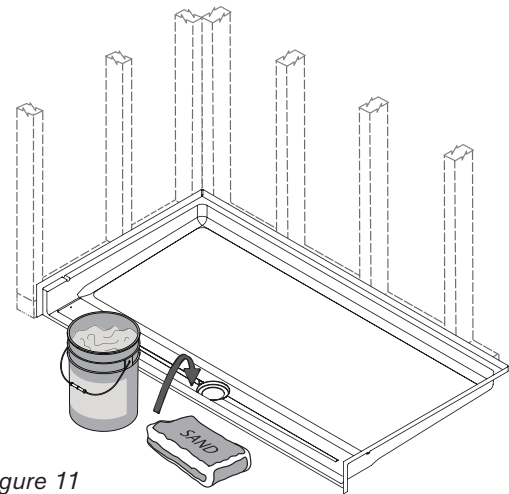

Figure 11
- 15 Place a weight (a bucket of water or sand) over the area to ensure the epoxy will be effective. (Figure 11)